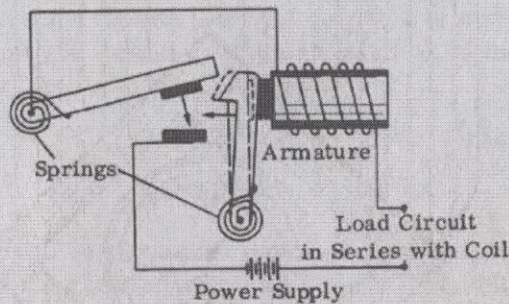

Figure 6-9. Magnetic circuit breaker.
47. The ability to control the action of magnetic force makes an electromagnet very useful in many circuit applications. You have probably noticed that either pole of an ordinary bar magnet will attract a magnetic material such as soft iron. The same is true of an electromagnet. The component that is to be attracted by the electromagnet is called the armature. One application of an electromagnet is illustrated in Figure 6-9, which shows a magnetic circuit breaker. Since a circuit breaker is a protective device that is designed to trip when current reaches its maximum permissible value, the adjustment of the armature is important.